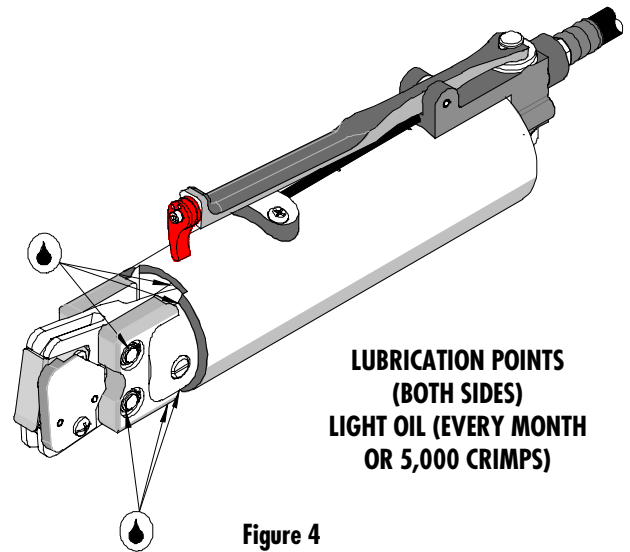

Figure 4
3. Make certain all pins; pivot points and bearing surfaces are protected with a thin coat of high quality machine oil. Do not oil excessively. The 64005-0600 (AT-7000) was engineered for durability, but like any fine piece of equipment it needs cleaning and lubrication for a maximum service life of trouble-free crimping. A light oil, such as 30 weight automotive oil used at the oil points shown in Figure 4, every 5,000 crimps or monthly will significantly enhance the tool life and ensure a stable calibration.